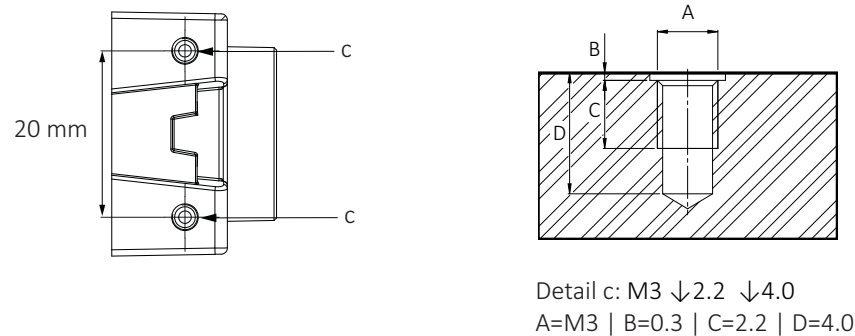

Figure 85: Top and bottom and mounting threads (c)
1. Mount the camera to the base using suitable M3 screws at 0.51 Nm maximum torque for a thread engagement (C) of 2.2 mm between screws and mounting threads, see Figure 85. For technical drawings, see Standard Alviuim: Dimensions and mass on page 173.